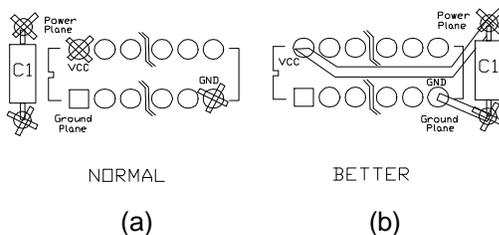

Figure 2
**Bypass Cap Placement:** As stated above, one of the design objectives is to keep noise transients OFF the power and ground planes. Thus, normal trace routing, illustrated in Figure 2(a), causes the charge that flows between the bypass cap and the IC leads to flow across the planes. Reinhold Henke uses the analogy of a "voice" in describing this. If the "voice" gets on a power or ground plane, it can be "heard" by other circuits. Therefore, you want to keep transient noise signals ("voices") off the planes. Figure 2(b) is BETTER because none of this transient flow occurs on the planes. There *is*, however, a transient voltage fluctuation along the trace between the bypass cap and the IC pins.